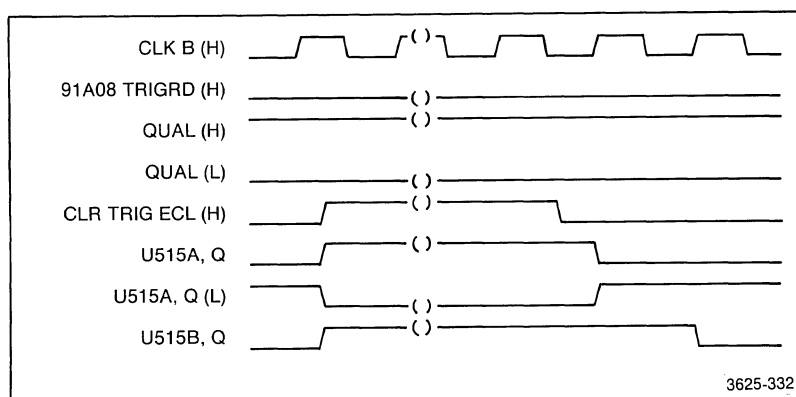

Figure 4-36. Initiating the pipelined internal timing sequencer.
The pipelined internal timing sequencer is initiated at start-up time as shown in Figure 4-36. The presetting of the pipeline is done by the CLR TRIG ECL(H) line.